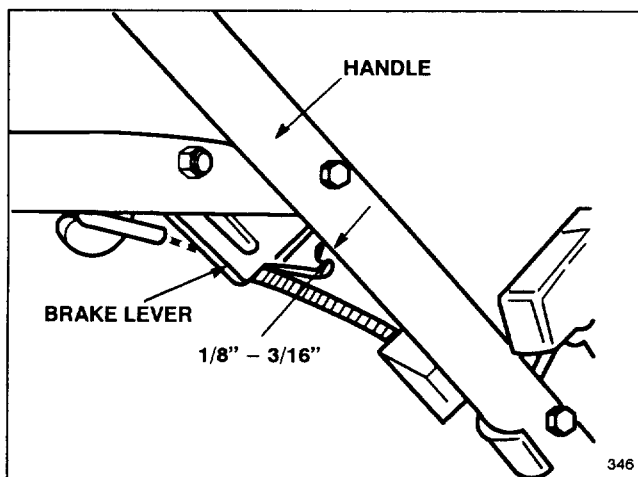

Figure 22
2. **CHECK ADJUSTMENT** (Fig. 22)—Move control bar toward handle until slack in wire is removed. Gap between brake lever and handle must be  $1/8'' - 3/16''$ . See step 3 for adjustment.